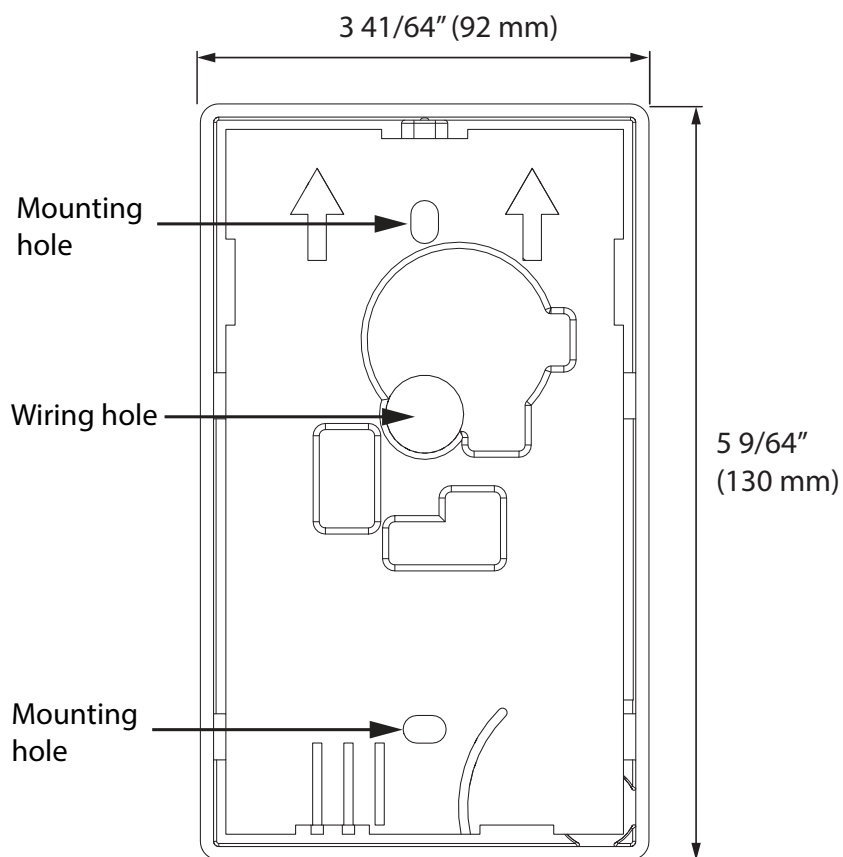

Figure 4 Mounting plate (back view)
1. If you are connecting power or RS-485 to the controller, use AWG 22 to 24. Run the wires to the single gang box and then through the wiring hole on the mounting plate (see Figure 4).
2. Attach the mounting plate to the single gang box using two screws (see Figure 4).